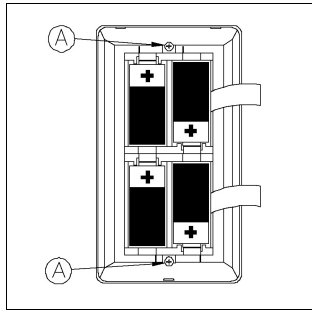

Fig. 3. Battery polarity.
3. Remove the battery holder by removing the two screws "A" shown in Fig. 3.
2. Install the four C batteries (supplied) over the pull ribbons, observing polarity shown in Fig. 3. (LED will start to flash. See Power-Up procedure).